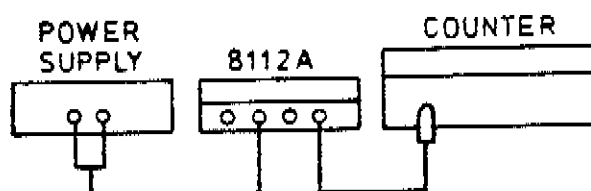

FIGURE 4-11. Equipment setup for Period Control performance test.
1. Connect equipment as shown in Fig. 4-11.